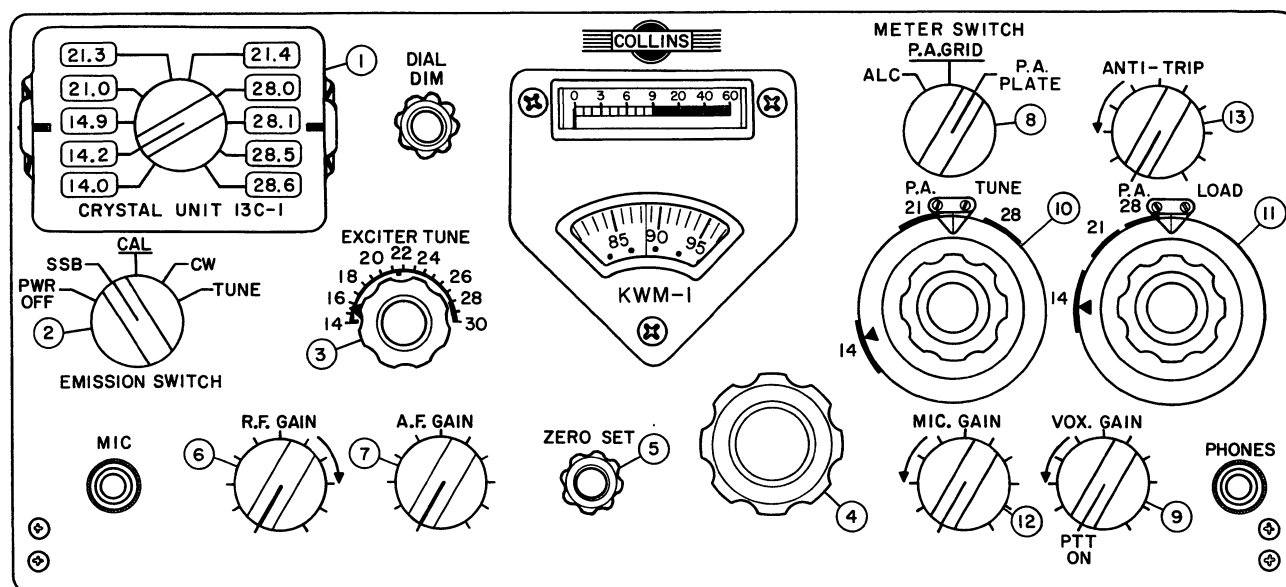

Figure 2-1. Operating Controls
a. Set controls as indicated on figure 2-1 (controls are numbered in the order of adjustment).
b. Select crystal (1) for lower edge of desired 100-kc band.
c. To calibrate, turn EMISSION SWITCH (2) to CAL.
d. Turn KILOCYCLES control (4) to 0 or 100, closest to desired frequency.
f. Adjust ZERO SET (5) to indicate 0 or 100 on KILOCYCLES dial.
g. Set EMISSION SWITCH (2) to SSB.
h. Adjust EXCITER TUNE (3) for peak S-meter indication.